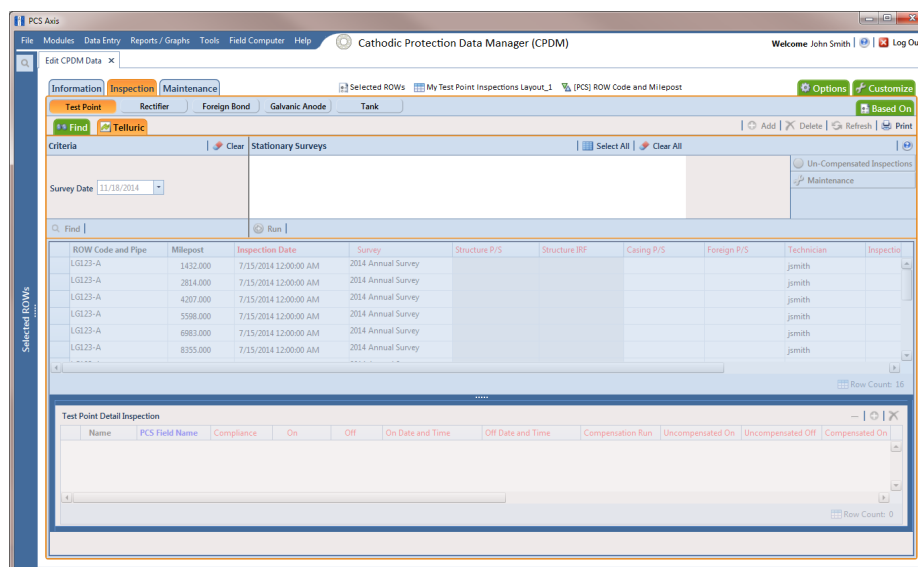

Figure 14-19. Telluric Workspace
- 2 Open the *Telluric* workspace in CPDM. Click **Data Entry > Edit CPDM Data > Test Point > Inspection > Telluric** tab (Figure 14-19).